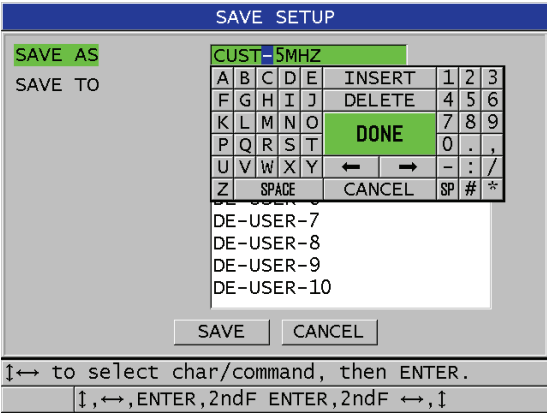

Figure 12-6 Saving the setup
- b) In the **SAVE SETUP** screen, enter the desired custom setup file name (see Figure 12-6 on page 212).